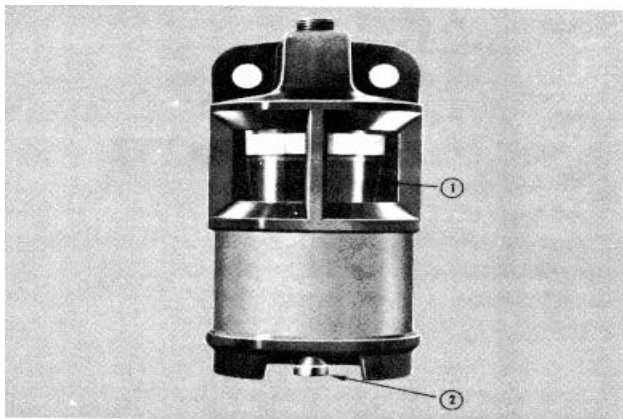

Fig 2-7, (CGS-20). Air inlet restriction indicator
A mechanical restriction indicator is available to indicate excessive air restriction through a dry-type air cleaner. This instrument can be mounted in the air cleaner outlet or on the vehicle instrument panel. The red flag (1, Fig. 2-7) in the window gradually rises as the cartridge loads with dirt. After changing or replacing the cartridge, reset the indicator by pushing the reset button (2).